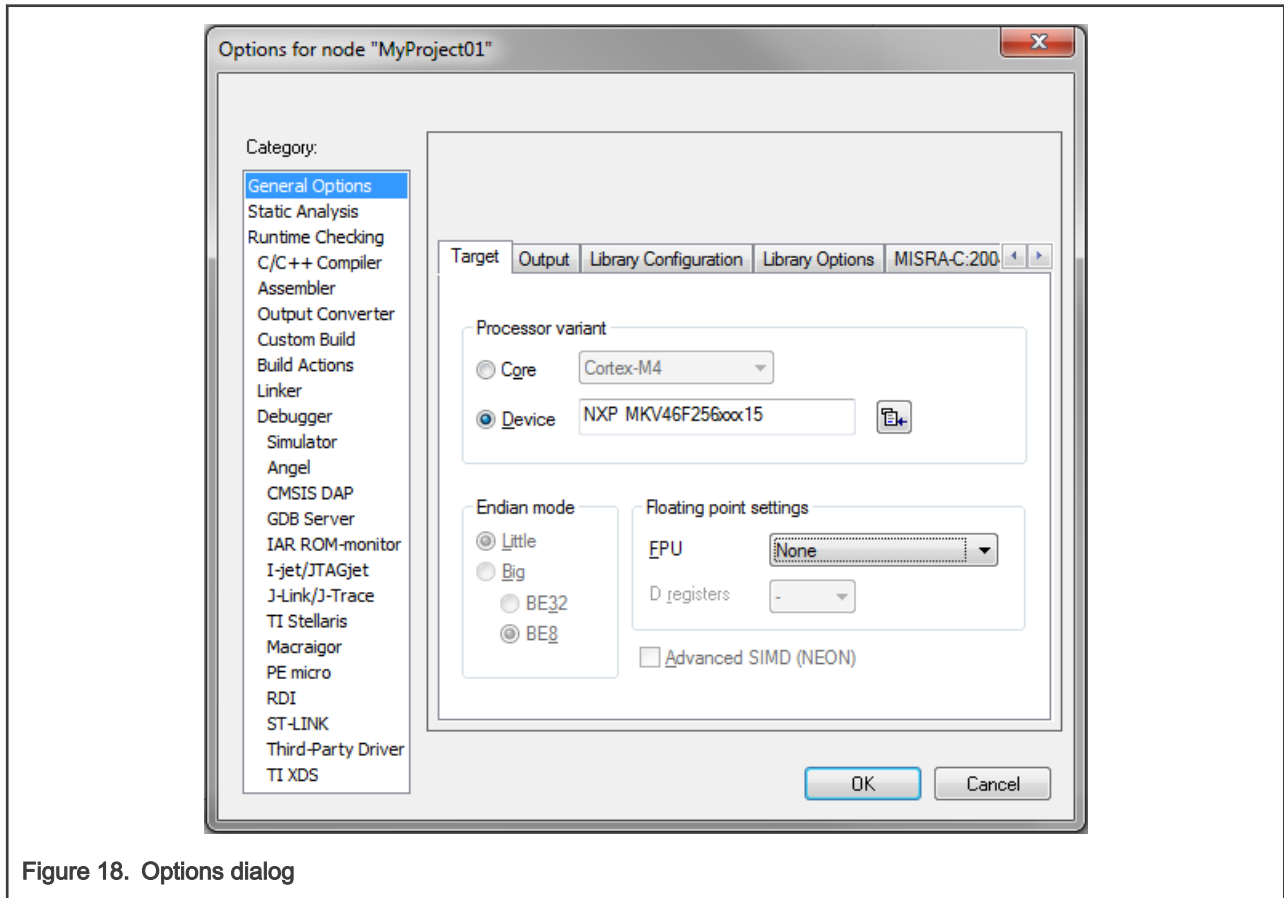

Figure 18. Options dialog
- In the Target tab, select the Device option, and click the button next to the dialog to select the MCU. In this example, select NXP > KV4x > NXP MKV46F256xxx15. Select None in the FPU option. Click OK. See Figure 18.